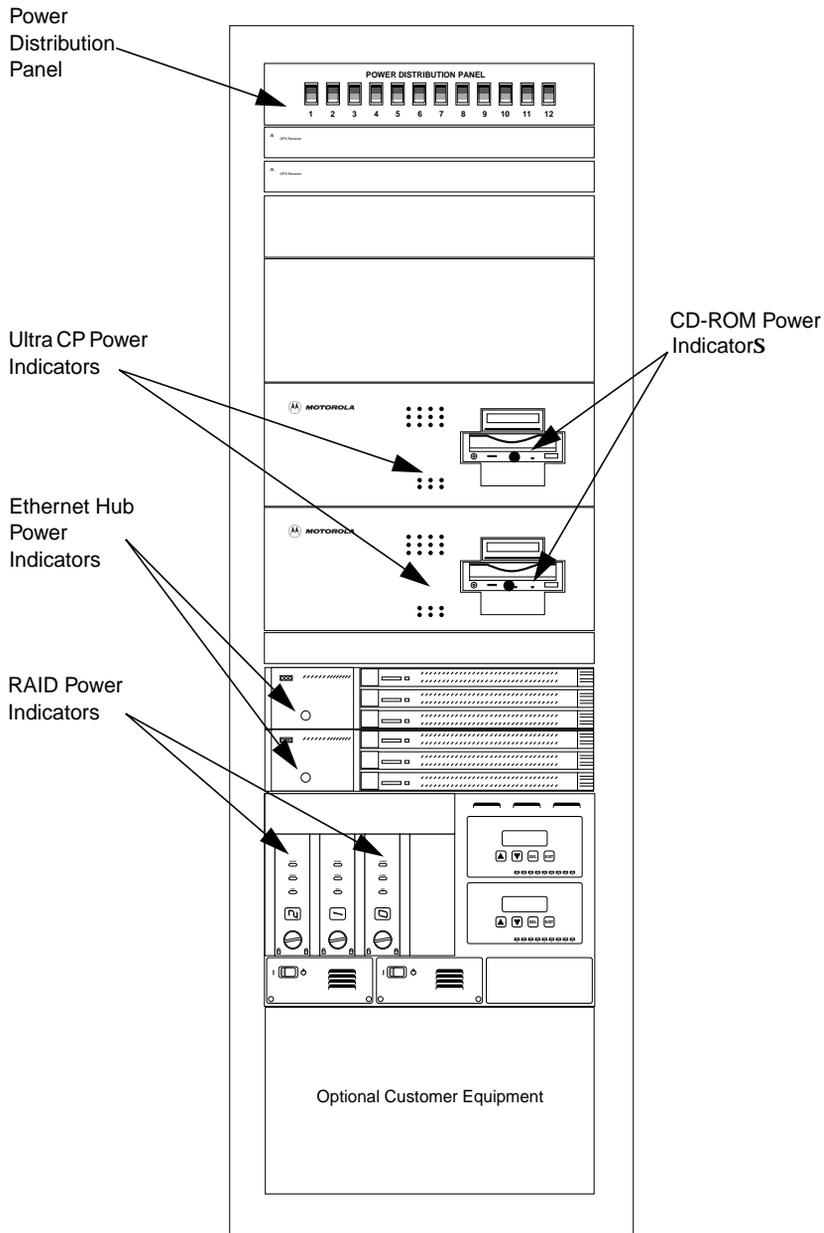

Figure 5-1: Example Redundant RF-C! Controller Power Indicators
1. Turn on the appropriate switches on the Power Distribution Unit (PDU) panel. These switches are located on the front of the PDU (see Figure 5-1). Switches set depend on the RF-C! controller configuration as indicated in Table 5-1.